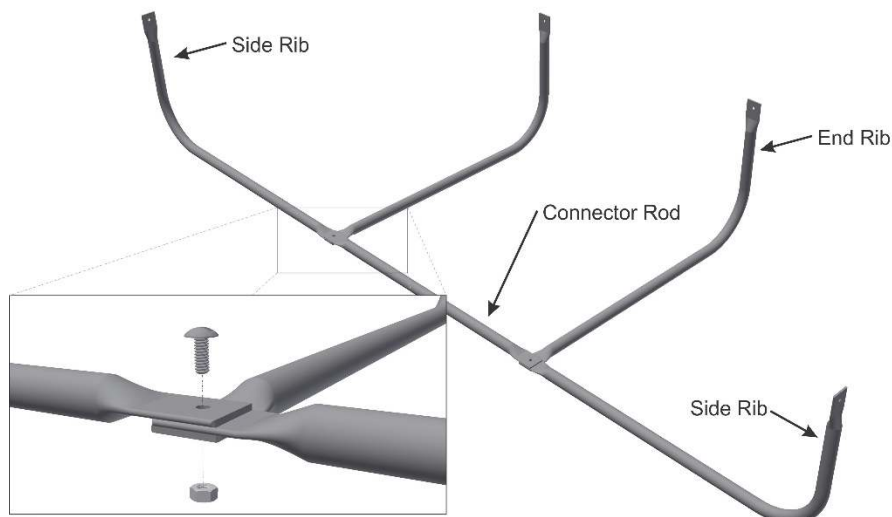

Figure 2 - [6x6 Frame]
- [6x6 Frame]* Take 4 rib sections and 1 2' connecting rod and attach them as shown in Figure 2. **Note: The connection point for the end ribs should be set under the side ribs and connecting rods.**